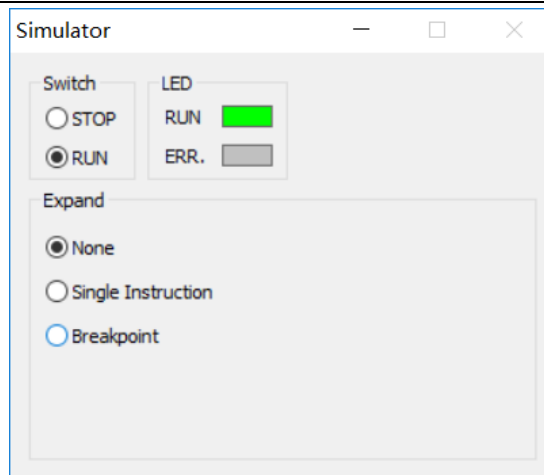

Figure 2-24
- 3) Click [Simulator] for offline simulation, it will pop-up simulator window as Figure 2-24 shows;